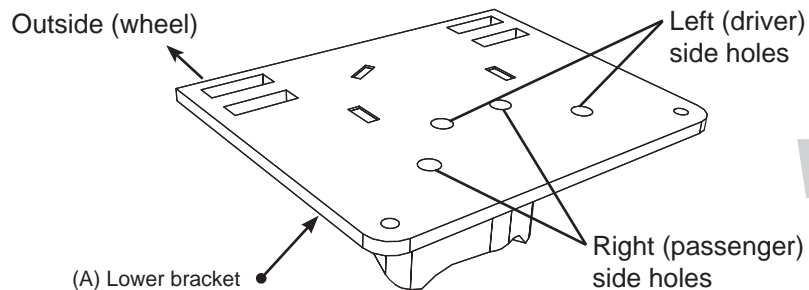

fig. 5
If you have no fifth wheel hitch or a hitch that does not have a plate running alongside the full length of the frame (these will have an "L" bracket forward and behind the axle leaving the middle frame open) use the 1/2-13 x 2.00" Hex Cap Screw (HH) with a flat washer (R) through the slot in the side of the frame, then through another flat washer (R) and finally through the upper brace. Cap with a flat washer (R) and a 1/2-13 nyloc nut (X) (fig. 5). Leave loose at this time.
Insert a 1/2"-13 x 3.00" hex cap screw (O) with a flat washer (R) through the fifth wheel plate previously drilled, the frame, then through another flat washer (R) and finally the upper brace. Cap with a flat washer (R) and a 1/2"-13 nyloc nut (X) (fig. 5). Leave loose at this time.
2. Install the swivel elbow fitting (Z) into the top of the bellows finger tight. Tighten the swivel fitting one and a half turns.
3. The lower bracket (A) has two sets of bellows mounting holes. Using the corresponding holes in the lower bracket designated (fig. 5), attach the bellows to the brackets using the 3/8" flat washers (W), lock washers (U), and 3/8"-24 x 7/8" hex head cap screws (N). Torque both mounting screws to 20 ft/lbs.